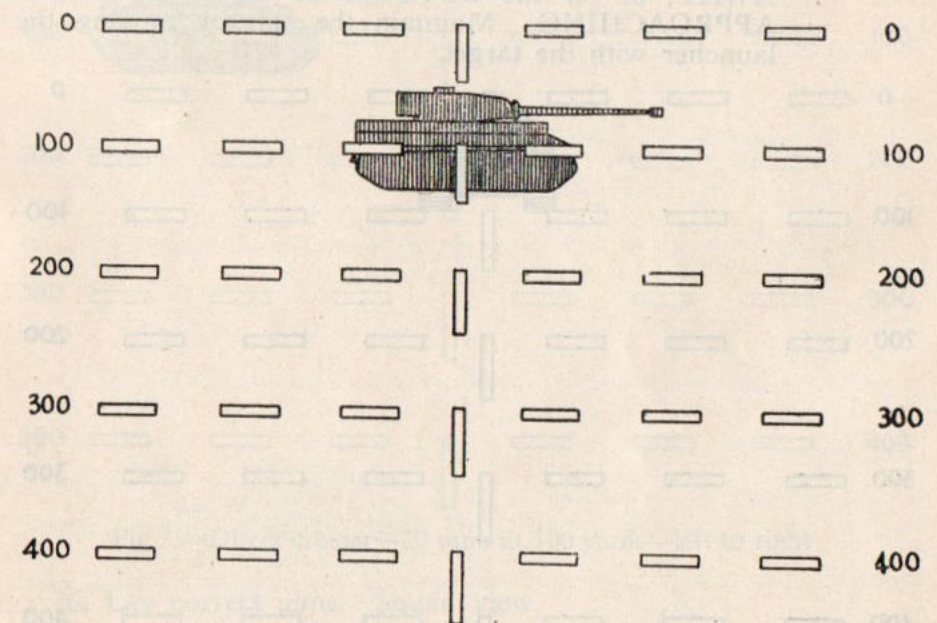

Fig 3.—Stationary target at 100 yards
17. *Stationary targets under 500 yards.*—Explain, using a diagram, how to aim (see Fig 3):—